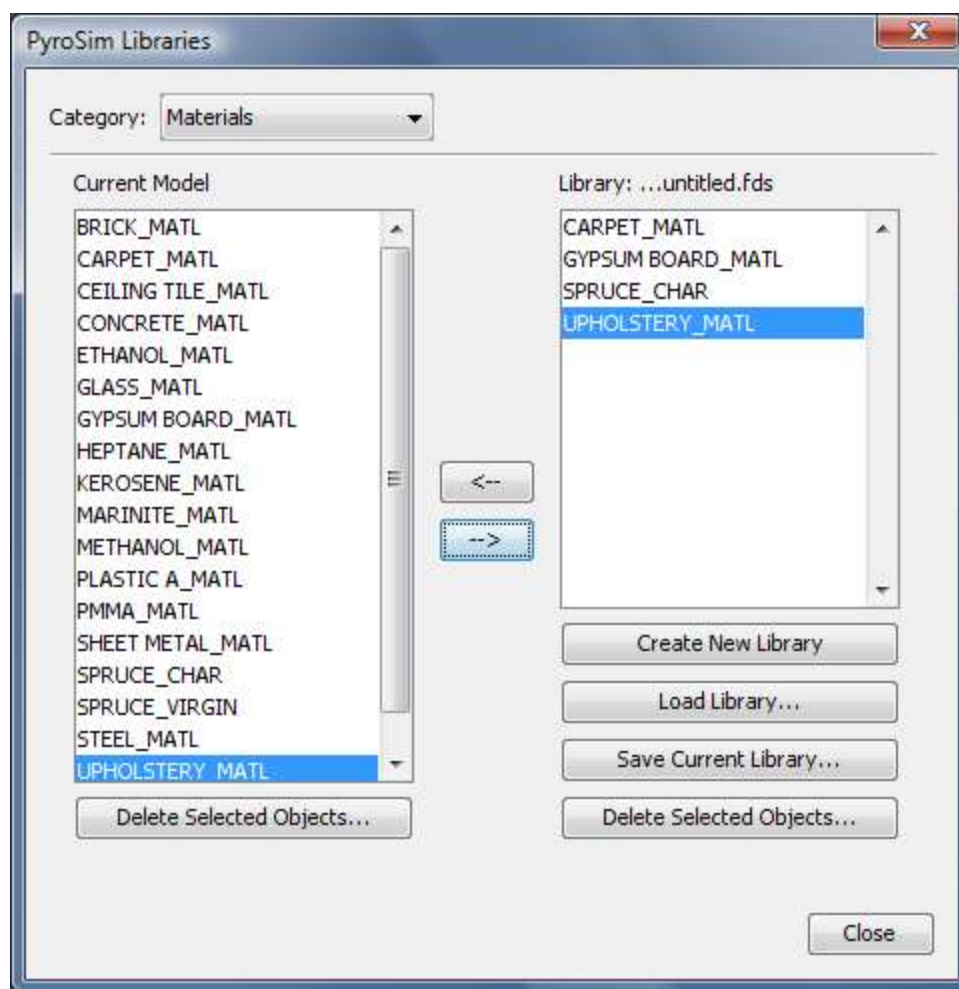

Figure 156. Creating a library of materials
2. Select the **Category** that you want to manage and move selected items from the **Current Model** into the **Library**, Figure 156.